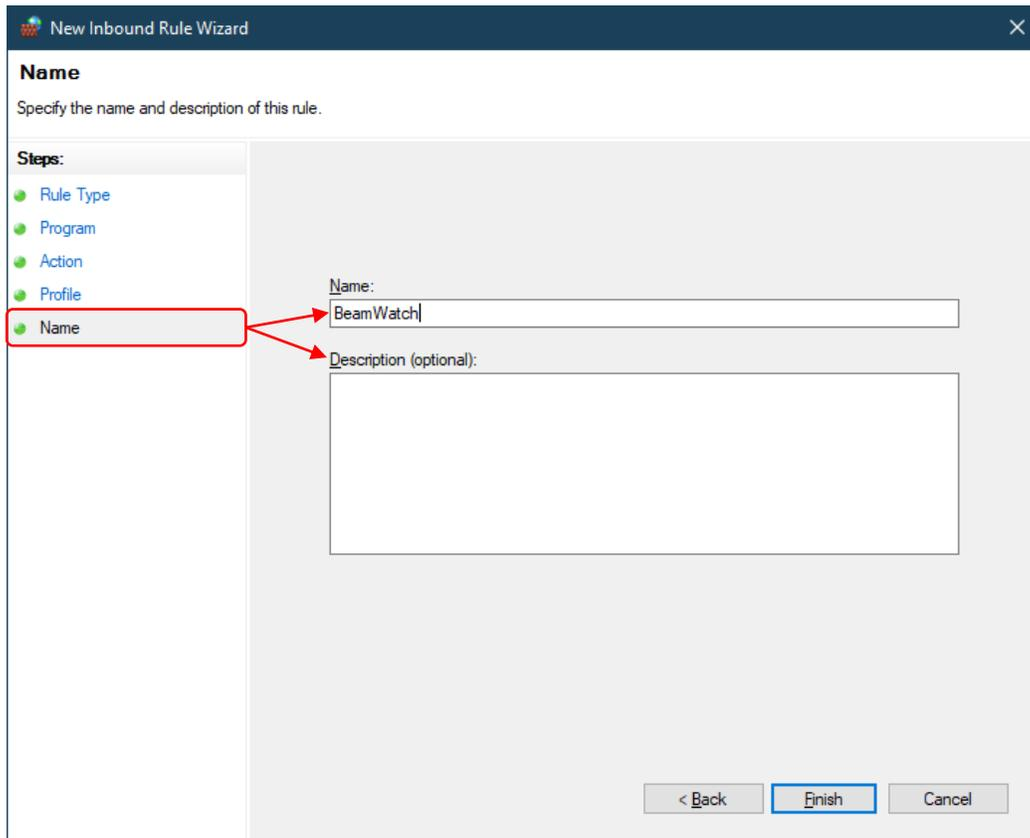

Figure 132: New Inbound Rule Name Page
12. On the **Name** page, enter a name for the rule and, if required, a description (Figure 132).